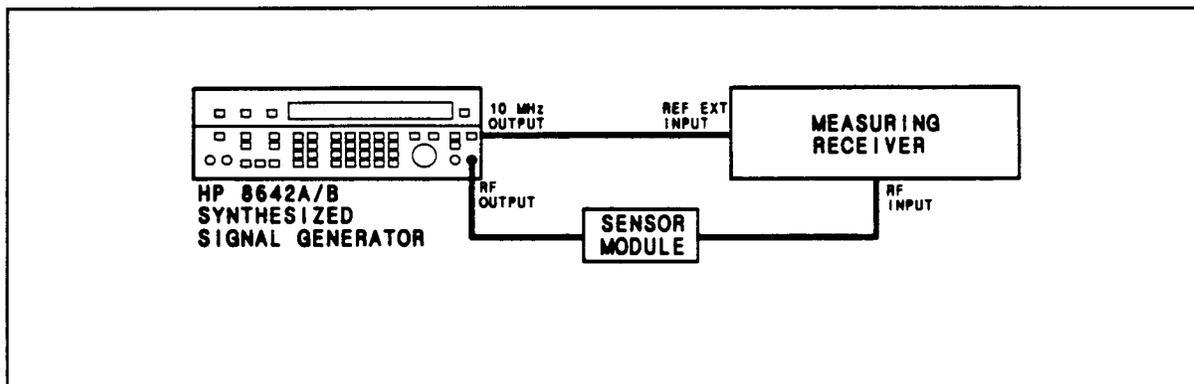

Figure 4-5. AM, FM, and PM Test Setup
1. Connect the instruments as shown in Figure 4-5 preset the instruments.